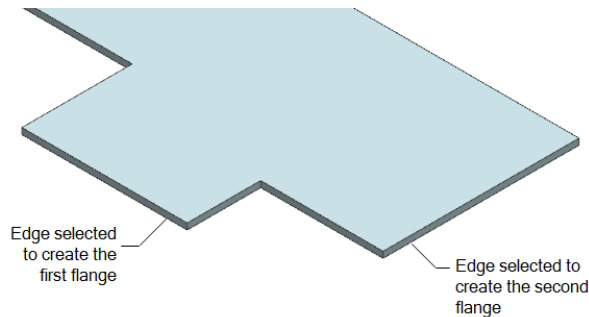
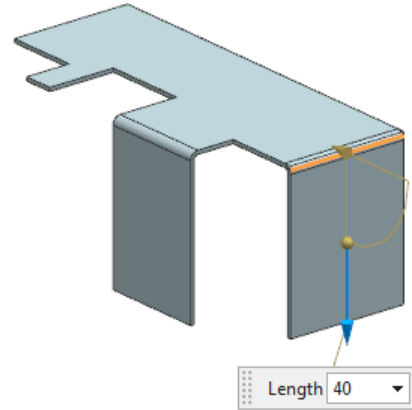

Figure 14-107 Edges to be selected to create flanges
Figure 14-109 Preview of the second flange
2. Select the edge on tab to create the first flange, refer to Figure 14-107; the preview of the full-width flange along with an edit box is displayed.
4. Similarly, create the second flange of 40 mm length by selecting the edge, refer to Figure 14-107. Figure 14-109 shows the preview of the flange created on the second edge selected. Next, choose the **Apply** button to create the flange.